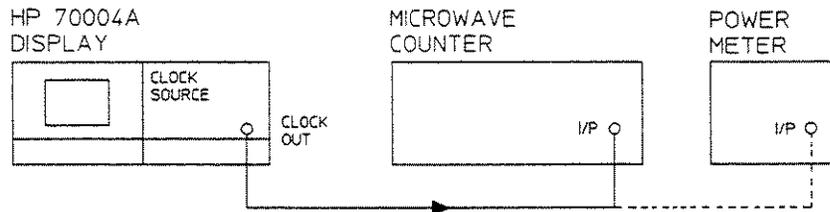

Figure 6-1. Operation Verification Hook-up Diagram
1. Install the clock source into the display, setup the equipment as shown in Figure 6-1 and switch on.